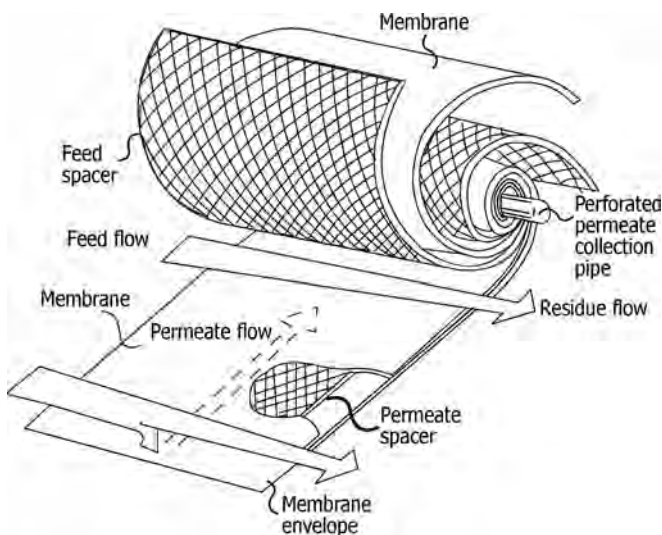

FIGURE 18.51 Schematic of a spiral wound membrane module.
- Figure 18.51 illustrates a spiral wound membrane module.